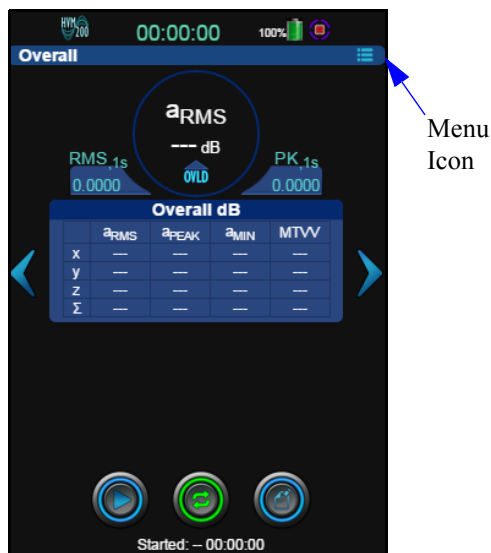

FIGURE 2-3 HVM200 App
Step 2 Click the menu icon, as shown in Figure 2-3.